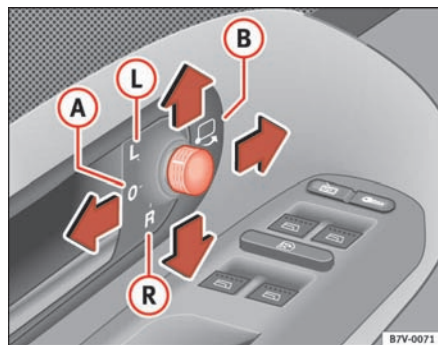

Fig. 83 Section of driver's door: rotary knob for the exterior mirrors
1. Turn knob $\Rightarrow$ fig. 83 to position ① (left exterior mirror).
3. Turn knob to position ② (right exterior mirror).